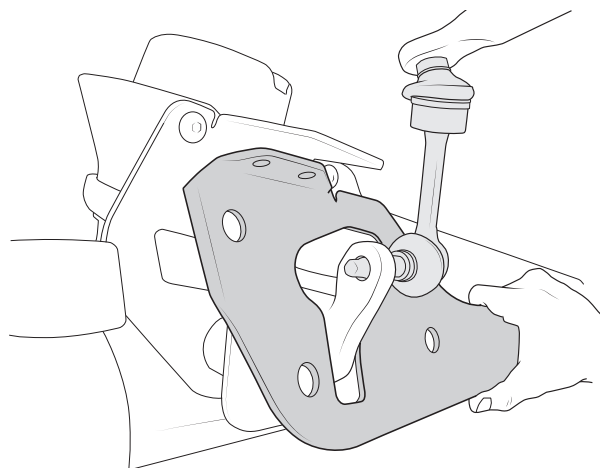

Figure 20
- D. Position the forward track bar bracket and insert the sway bar links back in the factory location and torque to **110 lb-ft** before installing any hardware (fig. 20).